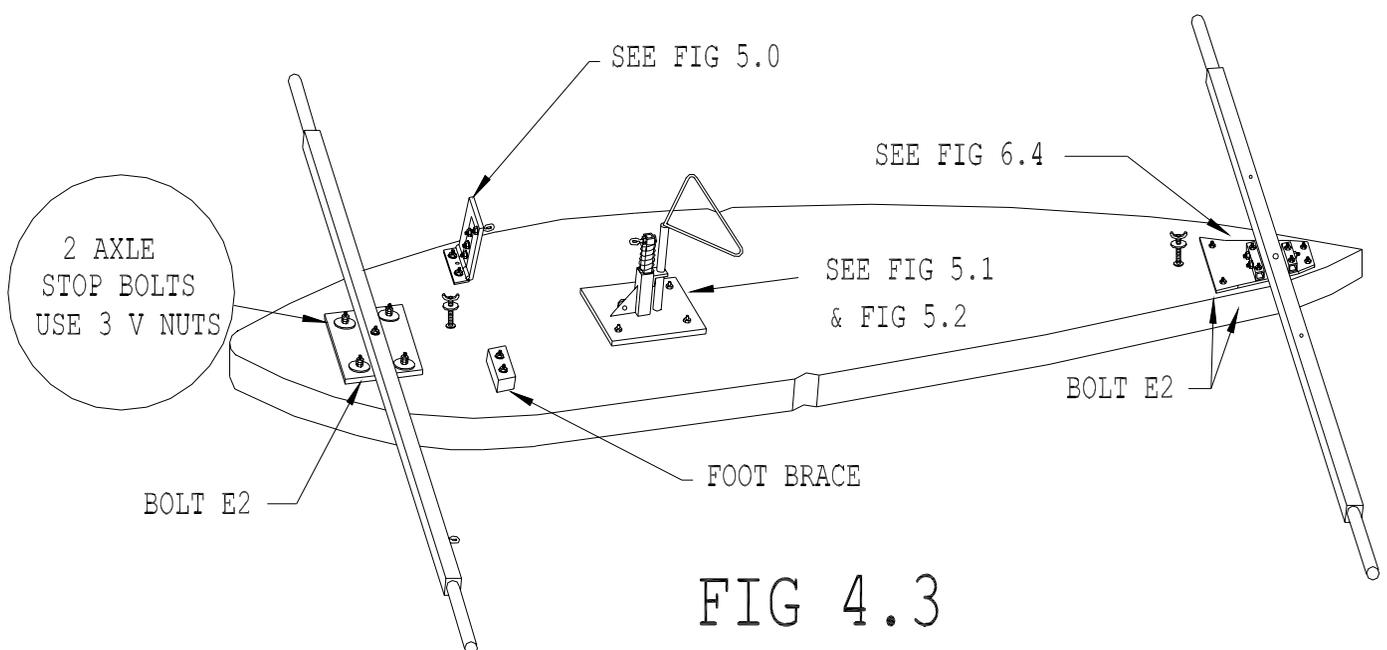

FIG 4.3
- d. Install axle stop blocks after you have determined your 3/8" swing in both directions. You may install blocks of your choice as long as you use two bolts per block and at least two blocks in front of or behind the front axle. These blocks must be as high or higher than the axle and may be glued to the body. If you use the bolts supplied in the kit, install them as viewed in Fig. 4.3.